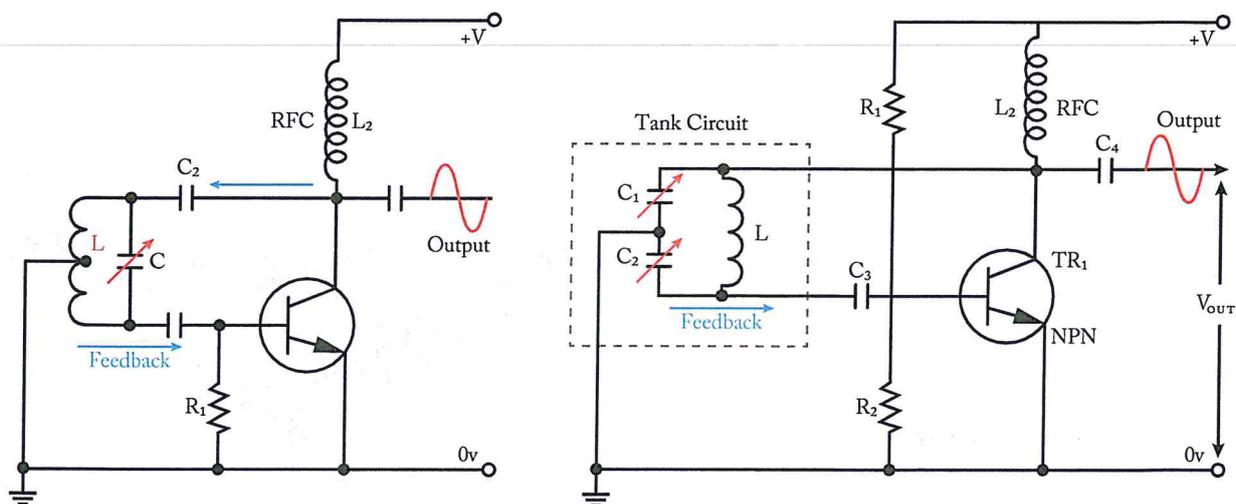

Figure 1-79. Hartley oscillator (left) and Colpitts oscillator (right).
The popular Hartley oscillator (*Figure 1-79 left*) has an automatic bias control feedback circuit using a tuned inductor-capacitor (LC) tank circuit connected between the collector and the base of the transistor. The emitter is connected to the tapping point on the inductor coil. The feedback loop of the tank circuit is taken from the center tap of the inductor to feed a fraction of the output signal back to the emitter. Since the output of the emitter is always in phase with the output of the collector, the feedback signal is positive. The frequency range of the oscillator is determined by the resonant frequency ( $f_R$ ) of the tank circuit, which can be adjusted by varying the capacitance of the tuning capacitor. For example, if the inductor (L) is 1mH and the capacitor (C) can be adjusted between 100pf and 500pf, the frequency range of the oscillator can be determined using the following formula:
Another popular oscillator circuit is the Colpitts oscillator as shown on *Figure 1-79 right*. The distinguishing feature of the Colpitts oscillator is that the feedback is taken from a voltage divider made up of two capacitors in series across the inductor in the tank circuit. Resistors R1 and R2 provide the usual stabilizing DC bias for the transistor, while the additional capacitors act as a DC-blocking bypass capacitors. A Radio-Frequency Choke (RFC) is used in the collector circuit to provide a high reactance at the frequency of oscillation, and a